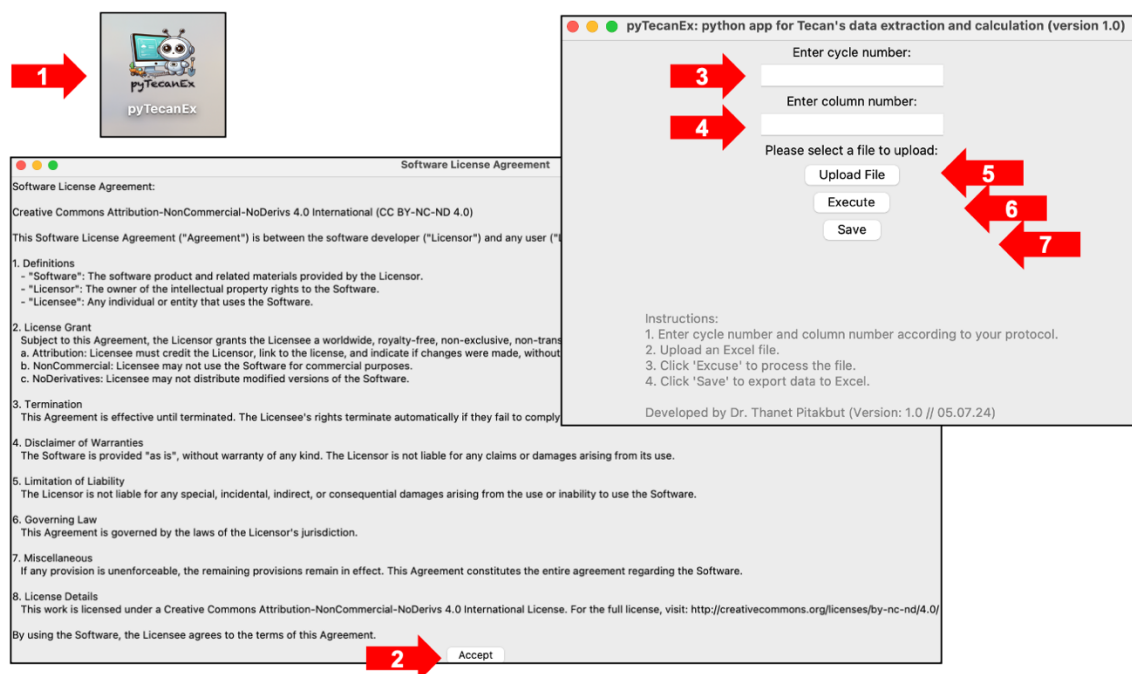

Figure 4. Instructions on how to run the pyTecanEx program, which consists of seven simple steps.
1. Double-click the pyTecanEx icon on your desktop, as shown in Figure 4. Alternatively, the users can call the program using a terminal using the code here (python pyTecanEx.py).